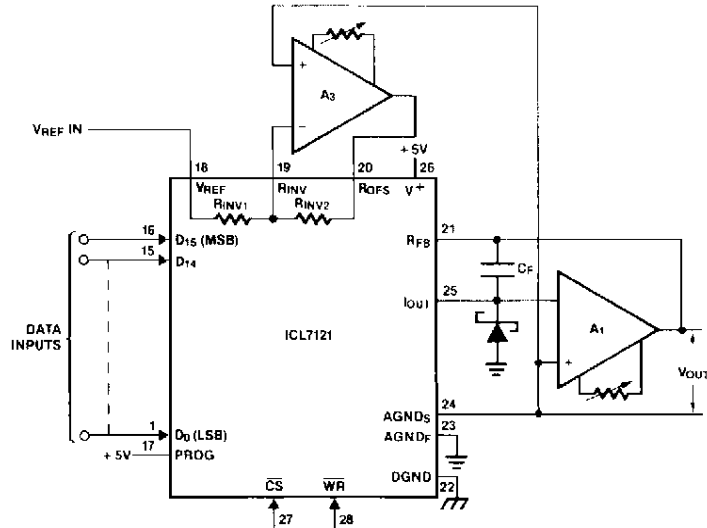

FIGURE 1. BIPOLAR OPERATION, FOUR-QUADRANT
6. Refer to Figure 1. Measured at output amplifier A1 (A1 having zero offset). $V_{REF} = +5V$. Adjustable to zero with external potentiometer.
The circuit diagram for the normal configuration of the ICL7121 is shown in Figure 1. The positive and negative reference voltages allow full four-quadrant multiplication. Amplifier A_3 , together with the internal resistors R_{INV1} and R_{INV2} , forms a simple voltage inverter circuit to generate $-V_{REF}$ for the R_{OFS} offset input pin. This will give the nominal "digital input code/analog output value" relationship of Table 1. Note that the value of R_{FB} is equal to $2R$ so full scale range is $2V_{REF}$.